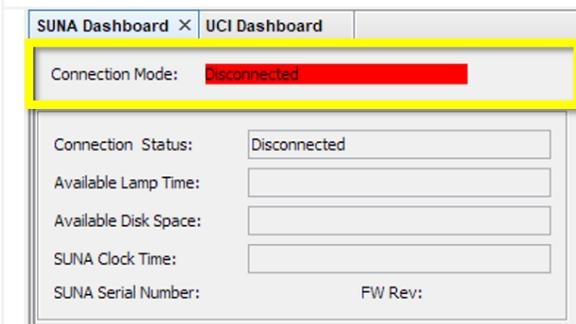

Figure 56. Confirm Connection Mode is Disconnected
**STEP 2** | You must wait for the software to successfully disconnect from the SUNA; it will show the **Connection Mode** as “Disconnected” in red (Figure 56).